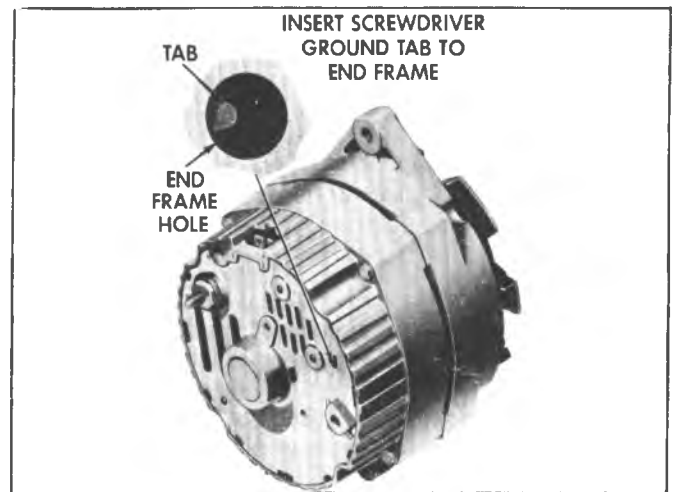

Fig. 6D-6C--Generator Test Hole
3. Loosen adjusting bolts (see Fig. 6D-6 through 6D-8 for generator mounting).